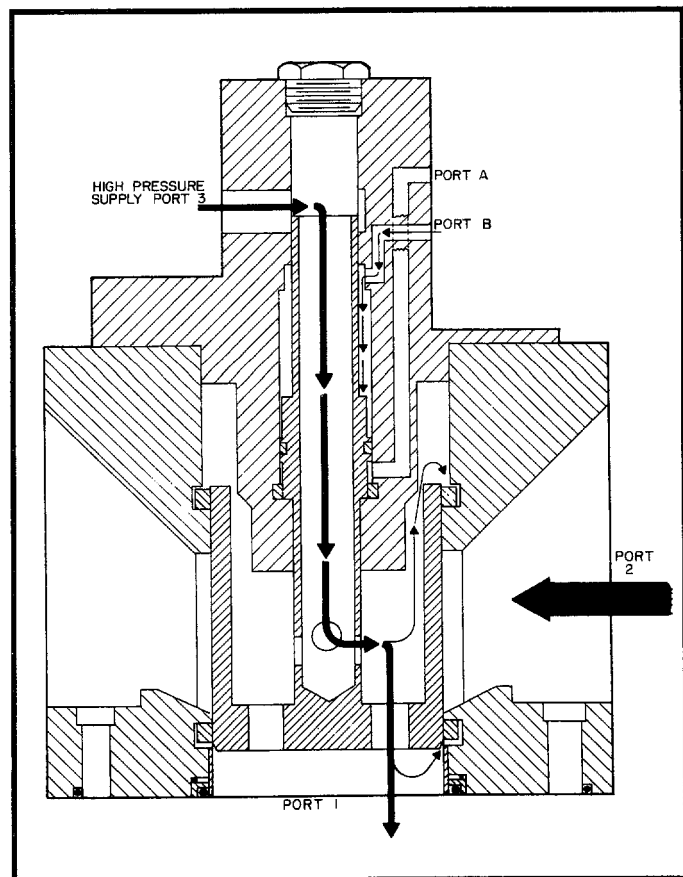

Figure 3. Diagram of Oilgear "VSA" Cylinder Prefill Unit in CLOSED position (508737D).
**2. Cylinder Pressing.** See Figure 3. Pressure at control Port "B" extends the operator ram (with the prefill plunger) into the dashpot. The prefill plunger blocks Tank Port 2. High Pressure Supply Port 3 is connected through the hollow operator ram to Cylinder Port 1 and provides for high pressure advance and full tonnage pressing.